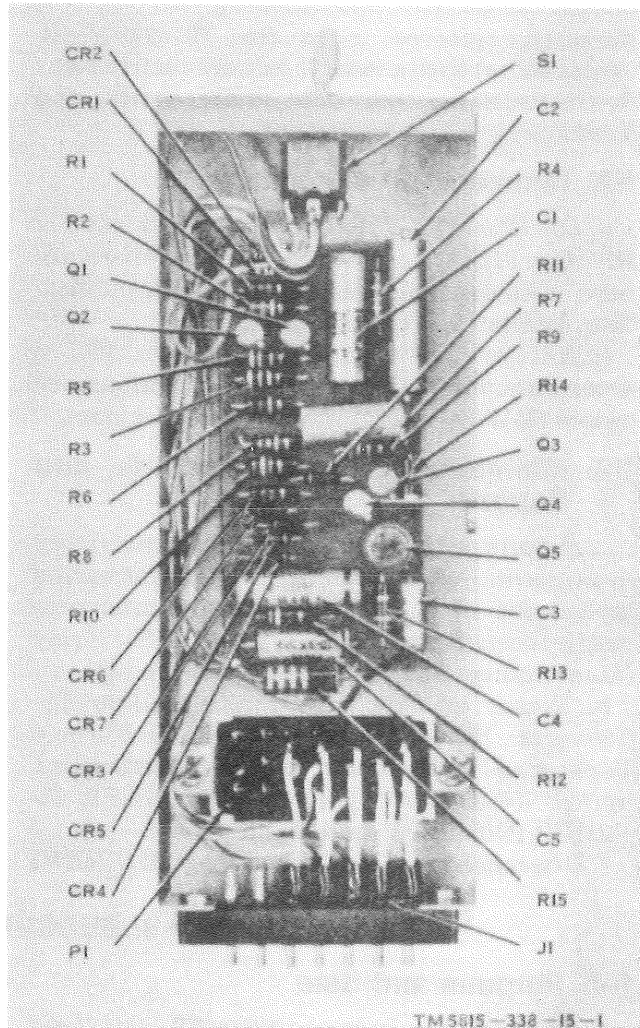

Figure 1-2. TT-523/GGC, cover removed.
a. The TT-523(*)/GGC is a transistorized, compact (slightly larger than a pack of kingsize cigarettes), electronic device housed in a metal case with a removable cover (fig 1-2 and 1-3). A two-position toggle switch, mounted on the top of the metal case, is the only switch or control. The circuit components are mounted on a printed circuit board which is secured within the metal case by four mounting screws. A multicontact plug is mounted on the bottom of the case, and a multipin receptacle is mounted on the rear of the case. The plug and the receptacle are used for connections to the TT-76(*)/GGC.